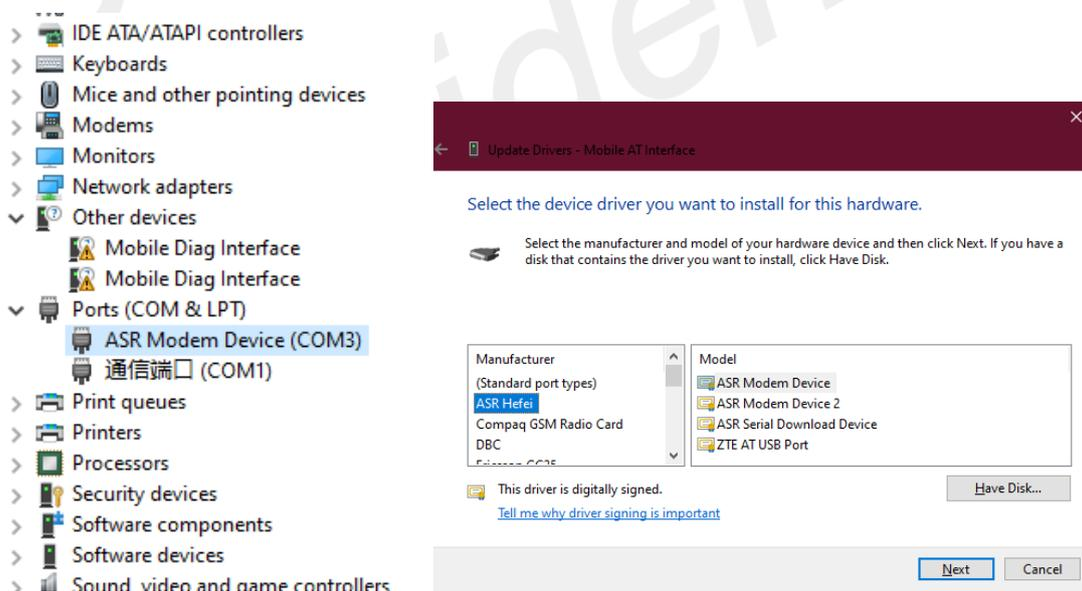

Figure 11: Other drivers installation method
10. You can see “ASR Modem Device (COM3)” in device manager as shown in Figure 11 on the left. Then you need to install the other two drivers in the same way, but you need to choose the other models named “ASR Modem Device 2” and “ASR Serial Download Device” as shown in Figure 11 on the right.